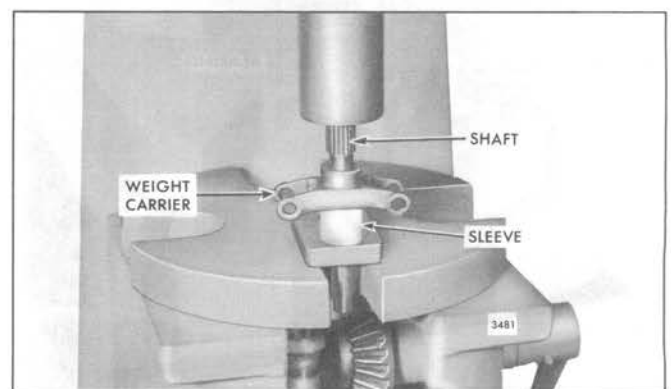

Fig. 19 – Installing Governor Weight Shaft in Weight Carrier
- a. Support the weight carrier (rear face up) on a sleeve and a steel support (with a 1" hole) over an opening in the bed of an arbor press as shown in Fig. 19.